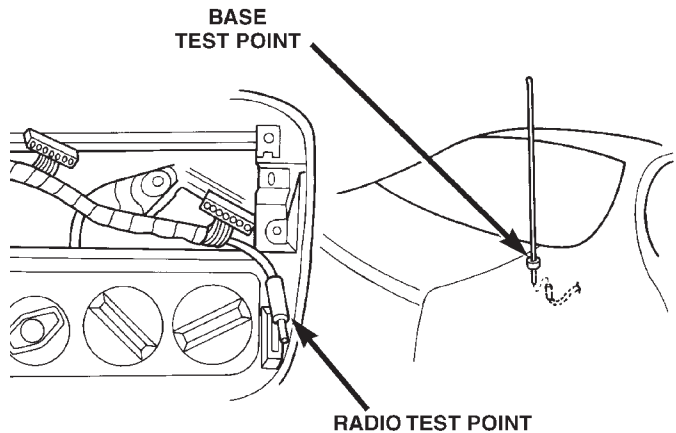

Fig. 1 Antenna Test Points
- (1) Continuity should be present between the antenna base and radio end pin of antenna cable plug (Fig. 1).
- (2) No continuity should be observed or a very high resistance of several megohms between the ground shell of the connector and radio end pin.
- (3) Continuity should be observed between the ground shell of the connector and the mounting hardware in the trunk right rear quarter panel